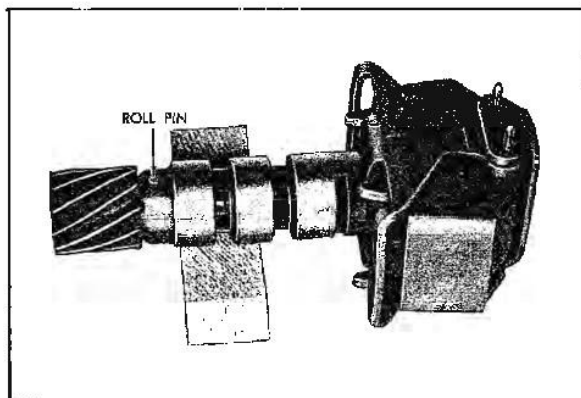

Fig. 7B-36 Supporting Governor
1. Support governor sleeve on wood block. Remove roll pin with a 1/8" drill rod (Fig. 7B-36).